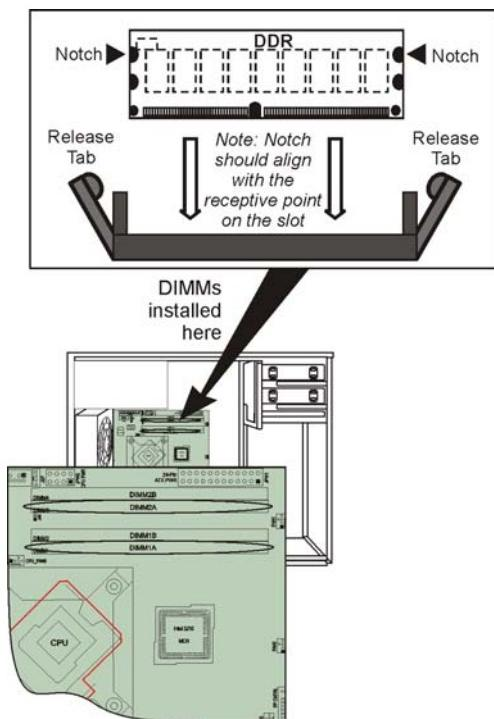

Figure 10: Installing a DIMM
4. Verify which DIMM you want to remove. See Figure 10 on page 102.
4. Insert the DIMM into the tab by pressing, one at a time, on the edges of the DIMM. Ensure that you press the DIMM vertically into the tab. See Figure 10.